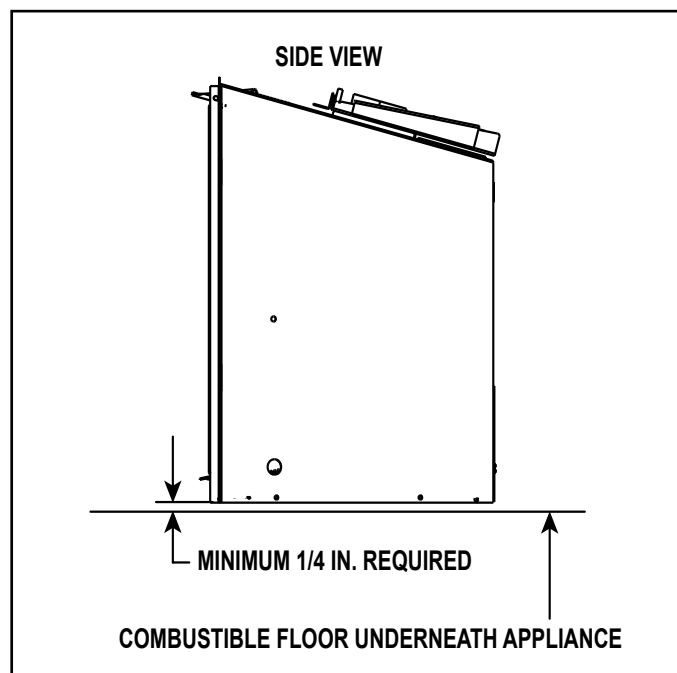

Figure 8.7 Solid Fuel Floor Clearance
- A minimum 1/4 inch gap from the bottom of the appliance to the metal floor of the solid fuel firebox is **REQUIRED**. See side view in Figure 8.7.
- Combustible flooring underneath the appliance is acceptable with a 1/4 inch gap. See Figure 8.7.